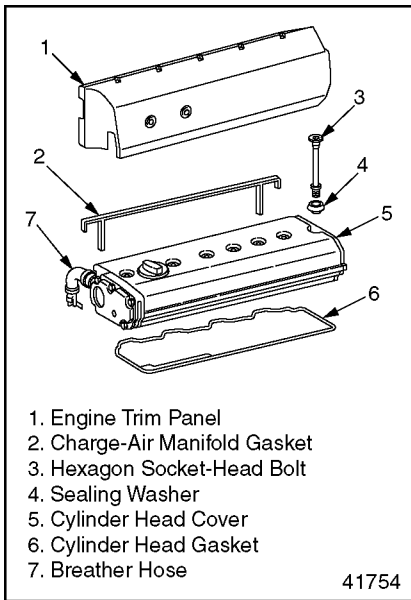

Figure 34 Cylinder Head Cover
1. Remove the cylinder head cover (see Figure 34).